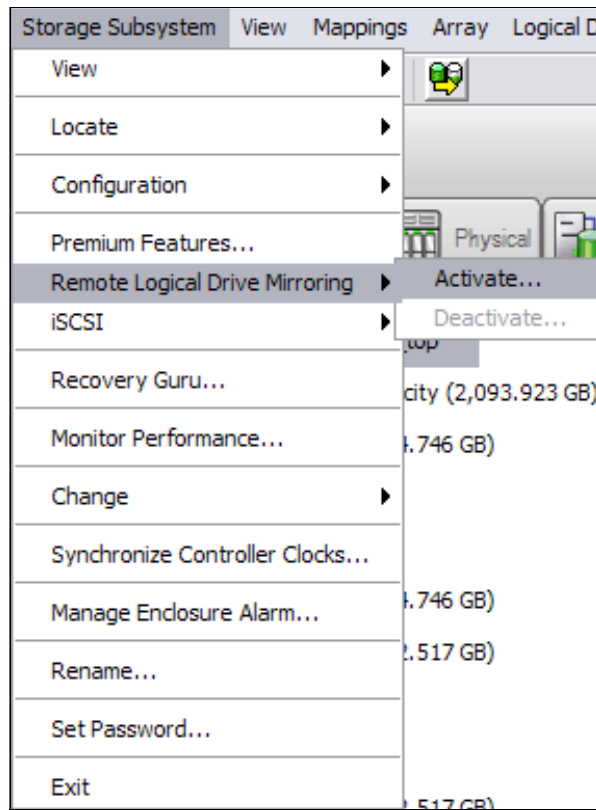

Figure 5-8 Activating Remote Mirroring
1. Select **Storage Subsystem** → **Remote Mirroring** → **Activate**. (Or, you may right-click and select **Remote Mirroring** → **Activate**.) See Figure 5-8.